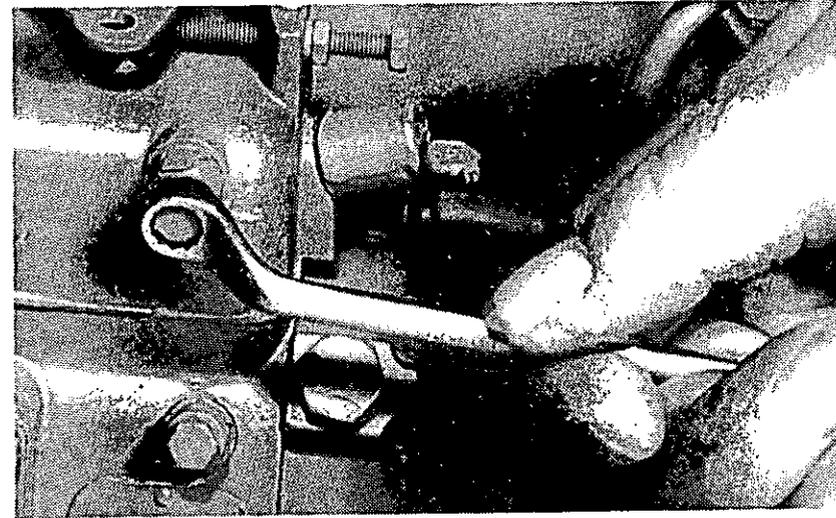

Fig. 12 Vent screw on mechanical governor
3 Loosen the vent screw near the top of the fuel injection pump governor control cover for mechanical governor (see fig. 12).
- Governor housing vent screw (see fig. 12).